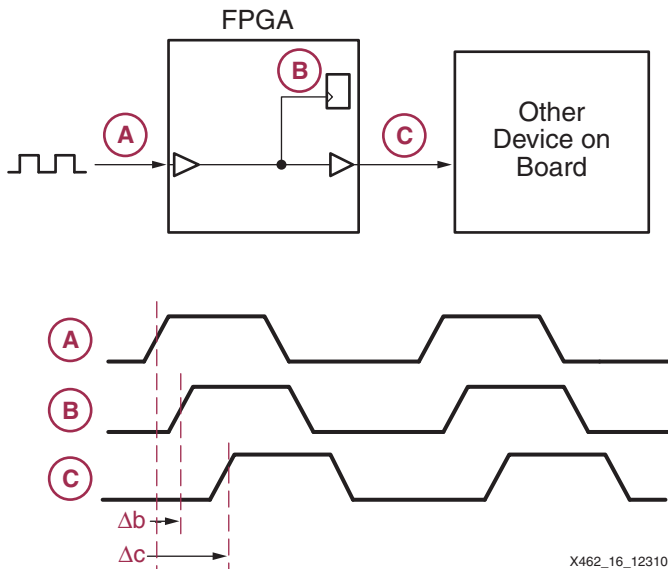

Figure 3-16: Clock Skew Inherently Exists in Every Synchronous System
Figure 3-16 illustrates clock skew in an example system. A clock source drives the clock input to an FPGA. The clock enters through an input pin on the FPGA, is distributed within the FPGA using the internal low-skew global clock network, and arrives at a flip-flop within the FPGA. Each element in the clock path delays the arrival of the clock edge at the flip-flop. Consequently, the clock input at the flip-flop—Point (B)—is delayed, or skewed compared to the original clock source at Point (A). In this example, this clock skew or difference in arrival time for this path is called Δb .
Is there a way to eliminate clock skew? Fortunately, a DCM provides such capabilities. Figure 3-17 shows the same example design as Figure 3-16, except this time implemented in a Spartan-3 generation FPGA. Two DCMs eliminate the clock skew: one DCM eliminates the skew for clocked items within the FPGA, the other DCM eliminates the skew when clocking the other device on the board. The result is practically ideal alignment between the clock at Points (A), (B), and (C)!